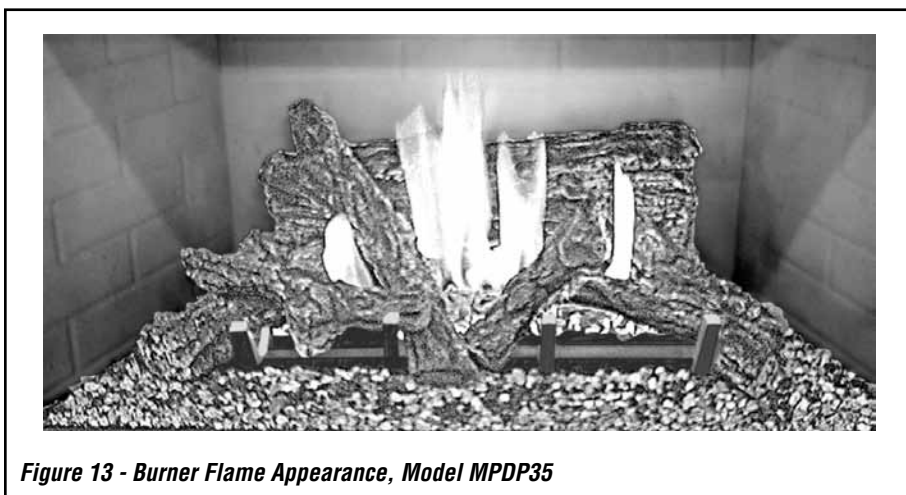

Figure 13 - Burner Flame Appearance, Model MPDP35
1. Refer to **Figures 13, and 14** for proper flame appearance. To adjust the flame, rotate the adjustment rod toward the back or toward the front of the fireplace (rod located in the lower control area). Position the air shutter to the factory setting as shown in the table to **Figure 15**.